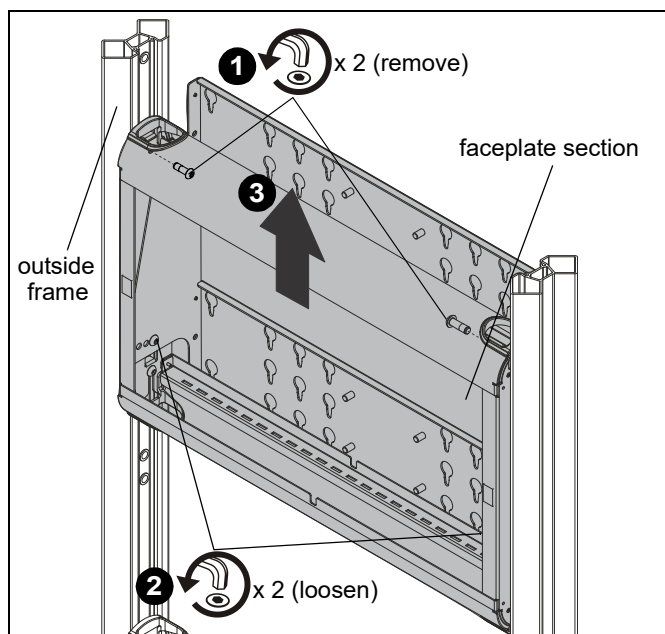

Figure 18
1. Remove two top button head screws holding faceplate section of mount to outside frame of cart. (See Figure 18)
2. Loosen two bottom button head screws holding faceplate section of mount to outside frame of cart. (See Figure 18)
3. Lift up and remove faceplate section of mount from outside frame of cart. (See Figure 18)